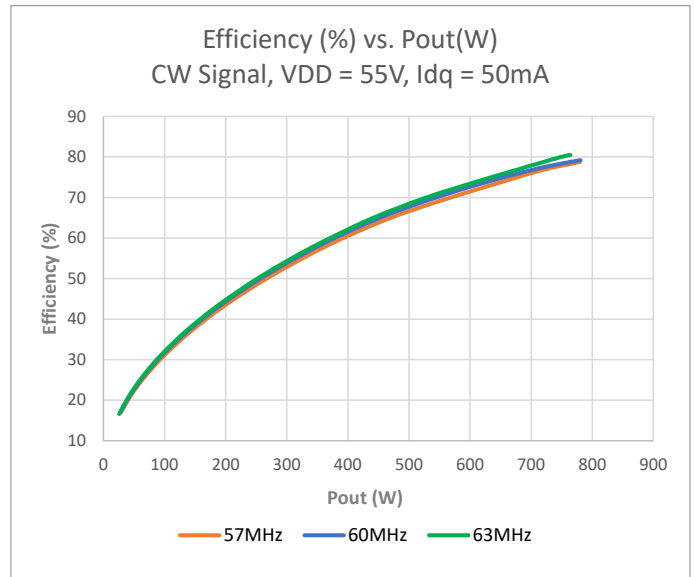

Figure 8 Efficiency (%) over output power (W), CW signal, VDD = 55V, Idq = 50mA
- Figure 8 Efficiency (%) over output power (W), CW signal, VDD = 55V, Idq = 50mA 9
Figure 8 illustrates the IR image of the demo after reaching thermal equilibrium with water cooling.